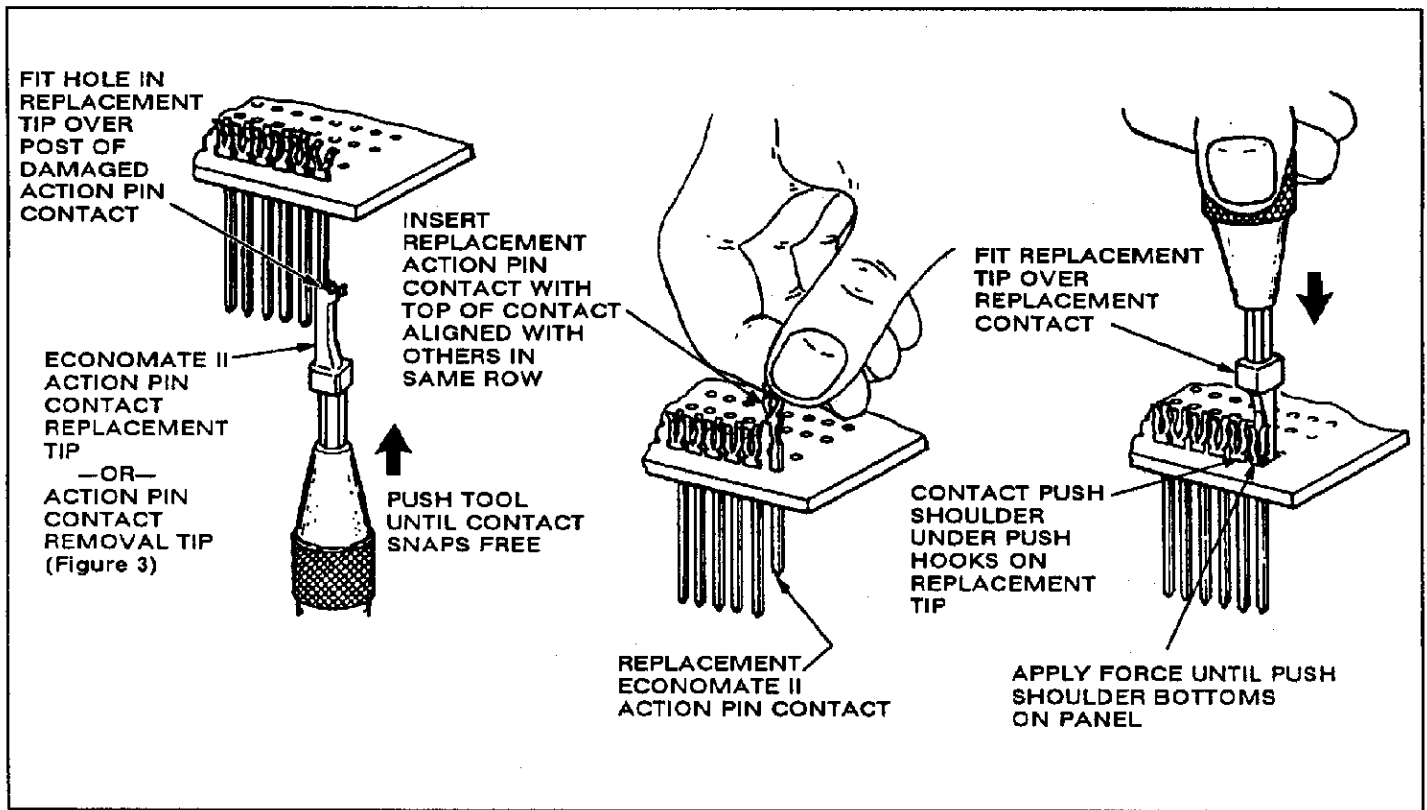

Fig. 6
**5. ECONOMATE II CONTACT REPLACEMENT (Figure 6)**